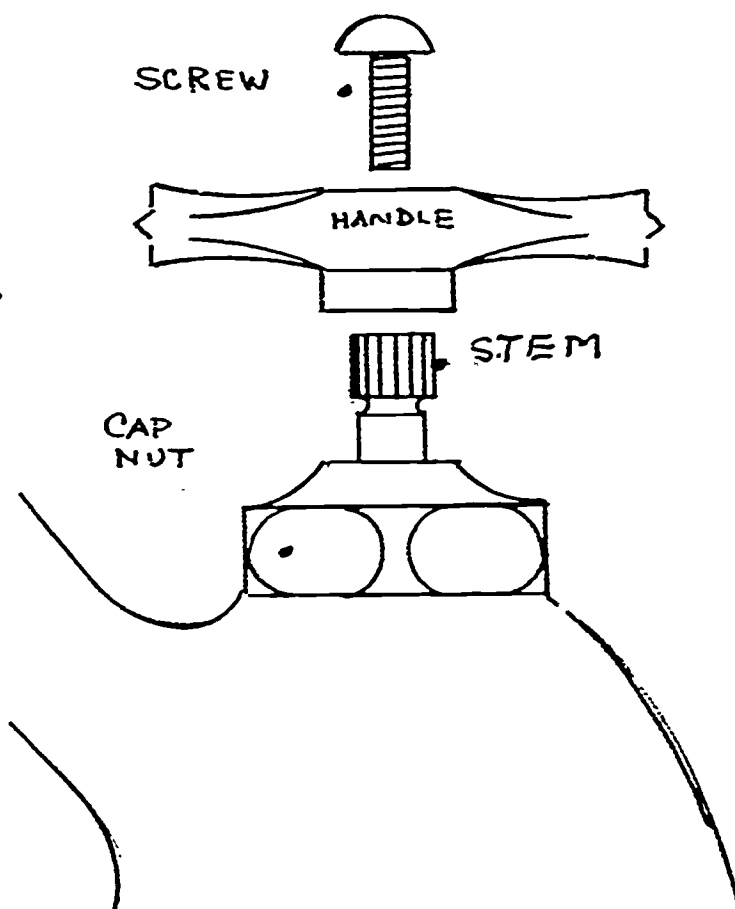

FIG. 315
- b. Remove handle (usually a chrome plated screw in the center of the handle.) See figure 315.